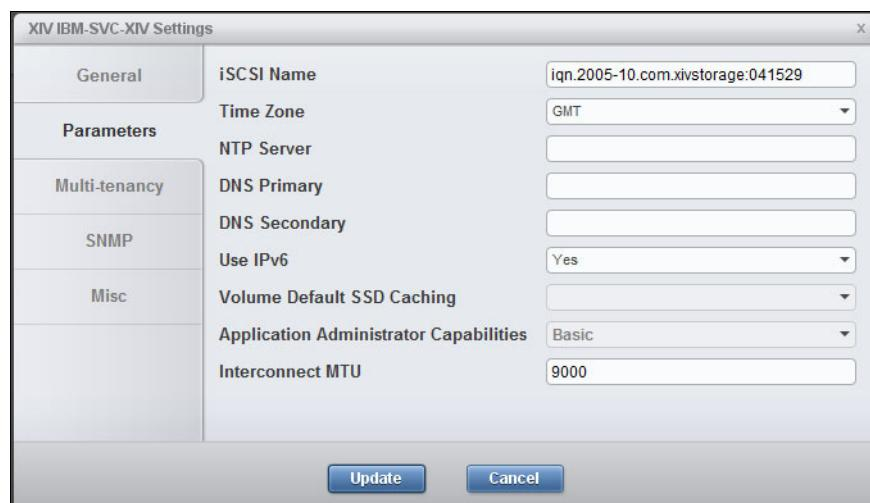

Figure 13-2 XIV system settings with iSCSI IQN
2. The Settings dialog box opens. Select the **Parameters** tab, as shown in Figure 13-2.